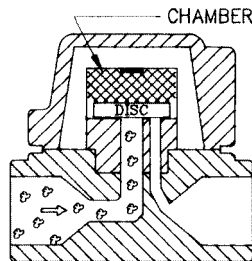

FIGURE 11
**Figure 11:** Further flow is stopped when sufficient pressure is trapped in the chamber above the disc. During operation, a decrease in chamber pressure permits inlet pressure to lift the disc and open the trap (**Figure 9**).